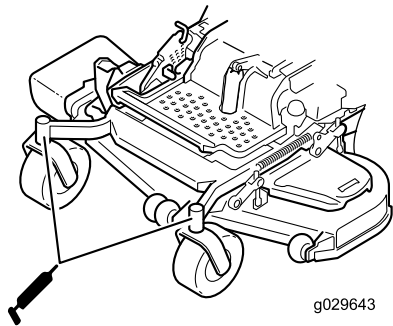

Figure 47
6. Install the hex plug and dust cap (Figure 47).
7. Grease the caster-wheel bearings (Figure 47).